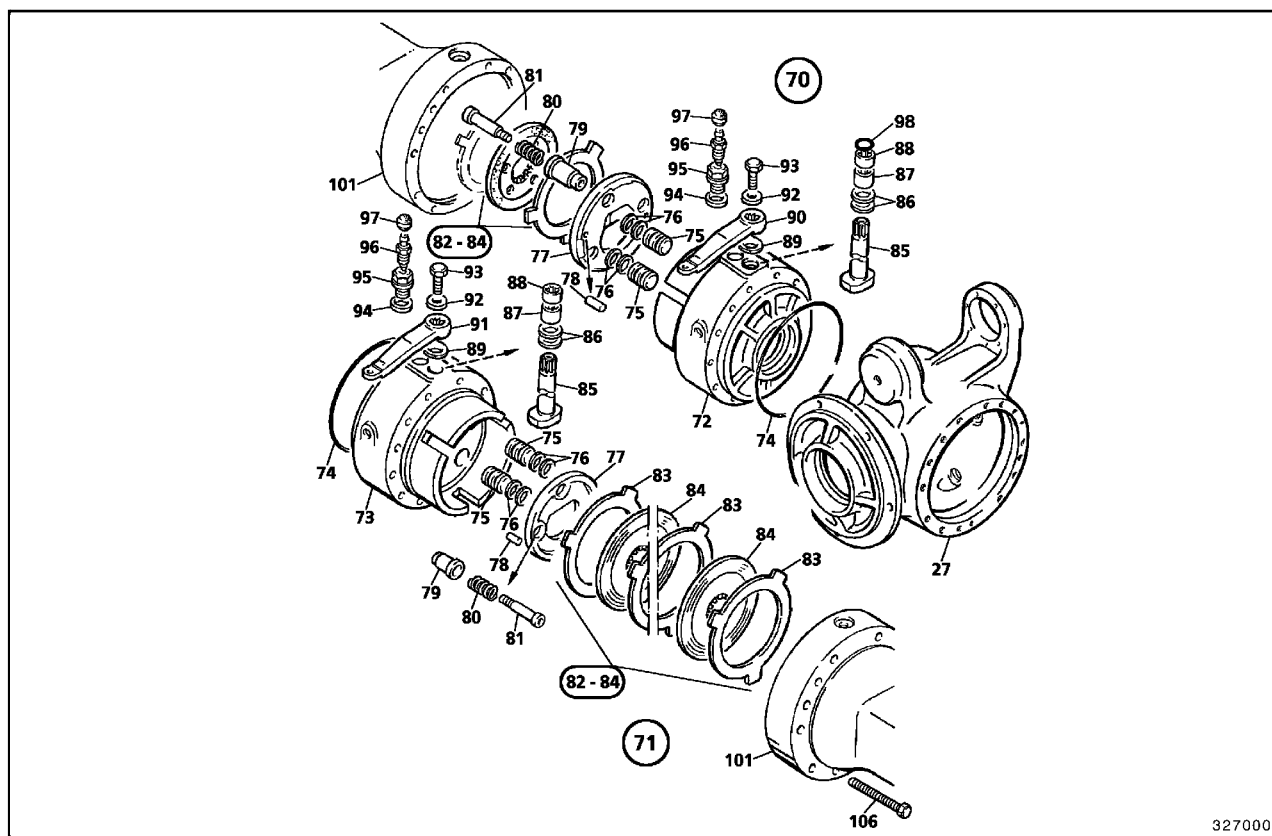

Fig. 2
- Bleed oil from wheel hubs and axle. Mark axle tubes (101, Fig. 2), brake carrier (72/73) and axle housing (27).
- Place axle in vertical position so that - seen in driving direction - the right-hand axle half is on top. At this position, ring gear (21) is on top. Refer to Chapter "Rear Axle Drawing". Fix lower axle tube. For holding fixture, refer to Chapter "List of Special Tools" chapter.